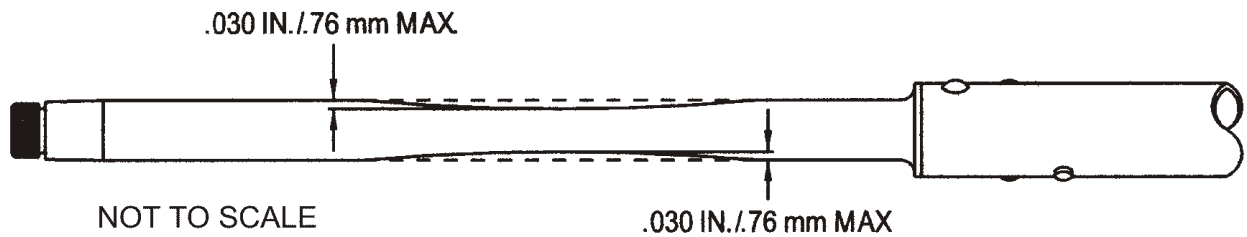

Figure 3. Lower Fitting Contact Wear Limits
* Contact wear can be repaired on two sides of the lower fitting. The rod assembly may be rotated 180° and reused when the contact wear reaches the repair limit on one side. Refer to Figure 3.